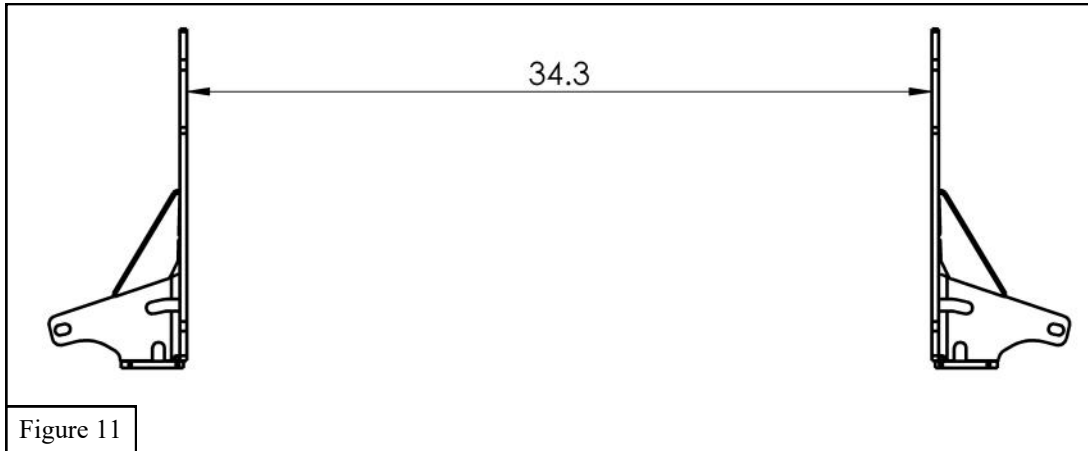

Figure 11
13. Repeat **Steps 5-12** on passenger side of the vehicle to install the passenger side mounting bracket (item 3) and the passenger side support bracket (item 5).
14. Adjust the support brackets so that distance between the inner surfaces is approximately 34.3 inches. See **Figure 11**.